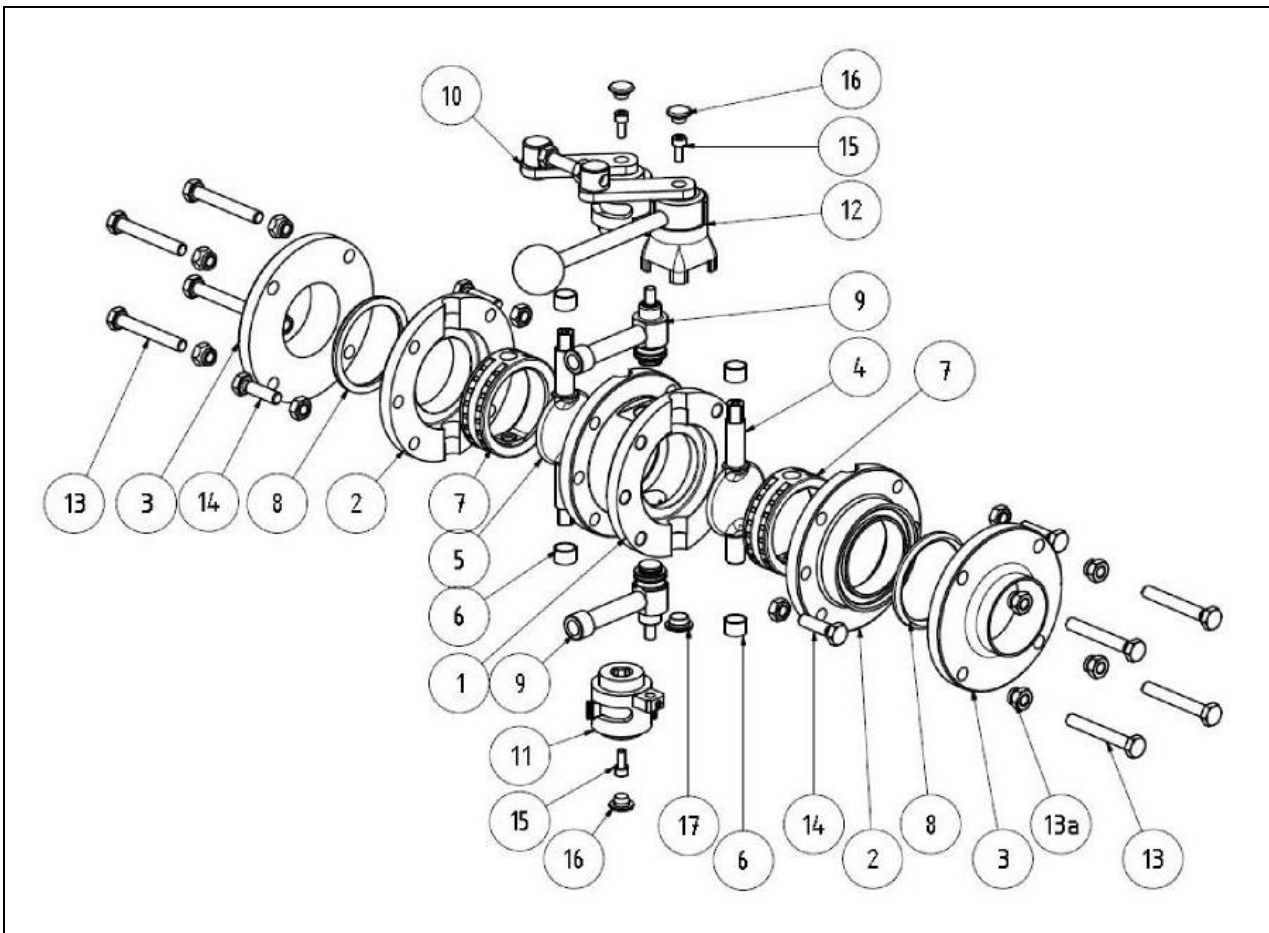
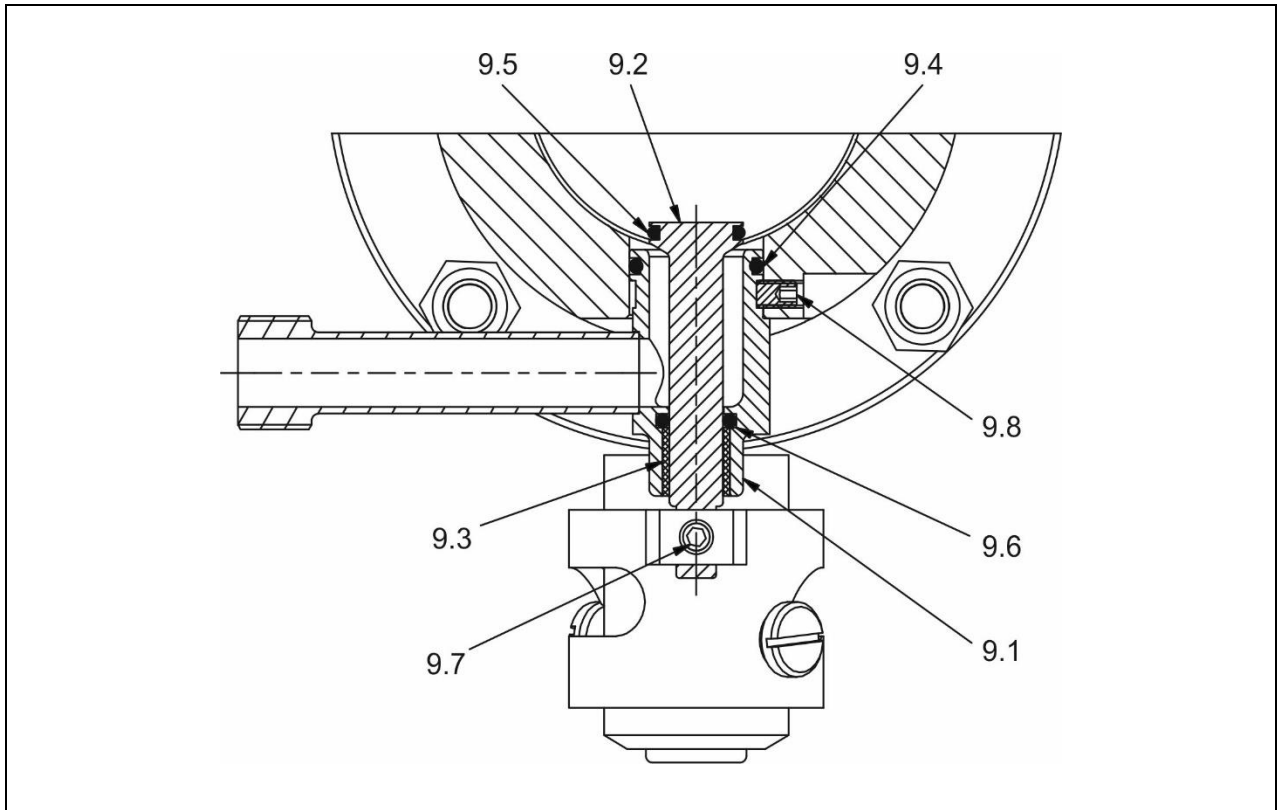
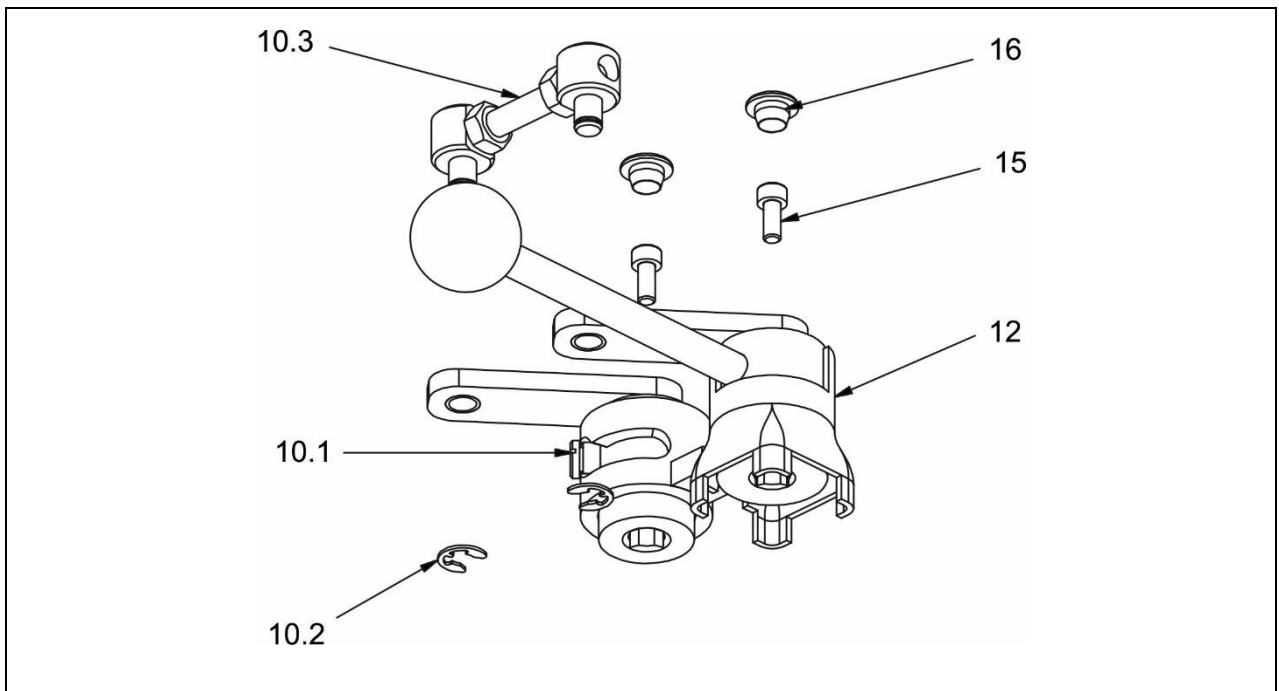

Fig. 6-1: Structure of the Leakage Butterfly Valve with Handle
Fig. 6-2: Structure of auxiliary valve
Fig. 6-3: Structure of the shift combination with handle
- Use only the screw connection (Art. no. 3402.12.002) or the screw connection with hose nozzle (Art. no 3502.15.002) for connecting the auxiliary valve (Fig. 6-1, item 9) and the leakage and rinsing connection (Fig. 6-4, item 17).
- Unfasten the screw connections on the auxiliary valves (Fig. 6-1, item 9).
- Remove the locking ring from the shift combination (Fig. 6-3, item 10.2).
- Pull the shift linkage upwards and out (Fig. 6-3, item 10.3).
- Release and remove the screw groups (Fig. 6-1, item 14) at the flanges.
Removing the Control Shafts (Fig. 6-1, items 10 and 11)
- Remove the blanking plug (Fig. 6-1, item 16).
- Release the socket-head screws (Fig. 6-1, item 15) in the control shaft and remove the handle assembly group with the swivel lever (Fig. 6-3, item 12).
- Release the set screws for (Fig. 6-2, item 9.7) the auxiliary valves.
Removing the Auxiliary Valves (Fig. 6-1, item 9)
- Release the set screws (Fig. 6-2, item 9.8) from the housing and pull the auxiliary valves out of the valve seats
- Release the screws (Fig. 6-1, item 14) and remove the inner flange (Fig. 6-1, item 2).
- Remove the butterfly valve seal with the valve discs (Fig. 6-1, item 7, 4, 5).
- Pull the bearing bushes (Fig. 6-1, item 6) from the shafts of the valve disc.
- Check the O-rings (Fig. 6-2, items 9.4, 9.5, 9.6) of the auxiliary valves for damage.
- Place the O-rings (Fig. 6-2, item 9.6) in the housing (Fig. 6-2, item 9.1).
- Press in the bearing bush (Fig. 6-2, item 9.3).
- Press the seal (Fig. 6-2, item 9.4) into the seat in the housing (Fig. 6-2, item 9.1).
- Push the valve tappet (Fig. 6-2, item 9.2) with the fitted O-ring (Fig. 6-2, item 9.5) into the housing.
For the nominal widths DN 40 – DN 150, the installation of the seal for the valve disc (Fig. 6-1, item 5) can be started using any of the two shafts.
For the nominal widths DN 25 and DN 32, the valve disc with end stop (Fig. 6-1, item 5) can only be removed with the butterfly valve seal (Fig. 6-1, item 7) as an assembly group and is replaced as a spare part with a pre-installed seal fitted at the factory.
- Clean the valve discs (Fig. 6-1, items 4 and 5) including the shafts, and lubricate the seal (Fig. 6-1, item 7) in the bearing shaft hole using approved grease (UNISILKON 641, e.g. from Klüber).
- Insert the long shaft of the valve discs (Fig. 6-1, items 4 and 5) into the hole in the seal (Fig. 6-1, item 7).
- Press the gasket (Fig. 6-1, item 7) together and pull it over the short shaft.
- **NOTE:** When installing the gasket, the valve disc must not be pivoted into the sealing seat. Slide the bushings (Fig. 6-1, item 6) over the shafts of the valve disc (Fig. 6-1, item 6).
- Place the valve discs (Fig. 6-1, items 4 and 5) with fitted seal in the bearing shaft hole in the housing (Fig. 6-1, item 1).
- Carefully place the inner flange (Fig. 6-1, item 2) on the housing (Fig. 6-1, item 1) without damaging the seal (Fig. 6-1, item 7) and screw in place using the screw group (Fig. 6-1, item 14).
- Set the valve discs (Fig. 6-1, items 4 and 5) to the “Open” position.
- Fit the auxiliary valves (Fig. 6-1, item 9) in the valve seats in the housing, fasten in position using the set screws (Fig. 6-2, item 9.8) and secure these with LOCTITE thread locker.
- Fit the control shafts (Fig. 6-1, items 10 and 11).